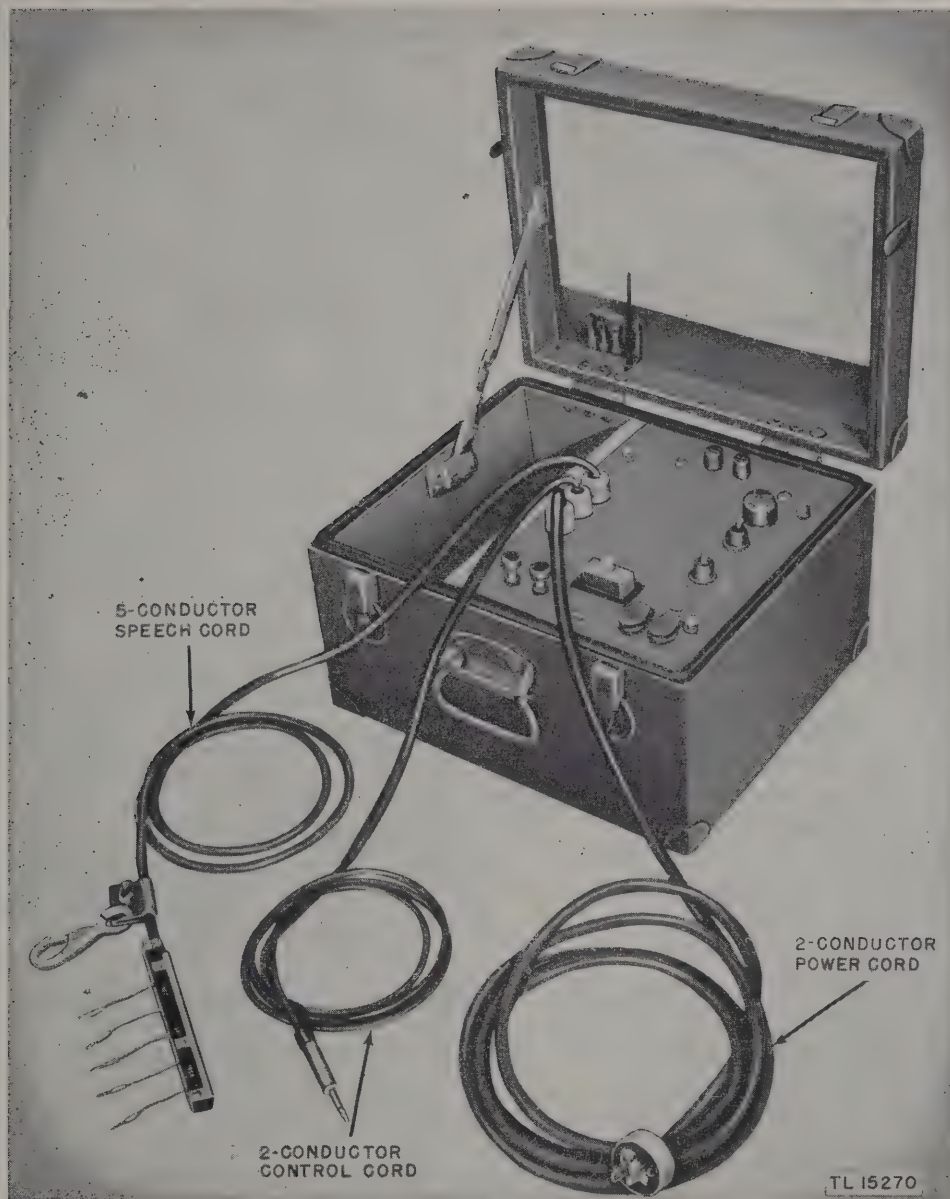

Figure 106. Control Unit C-113/TRA-2.
c. Operating power is supplied by Control Unit C-113(*)/TRA-2 (fig. 106); it may be either 115 volts or 230 volts from a 50- to 60-cycle source. Plug the power cord into one of the outlets of Junction Box JB-110. The power, speech, and control cords attached to the control unit are stored in the case. Three spare fuses and a contact burnisher are attached to the cover.